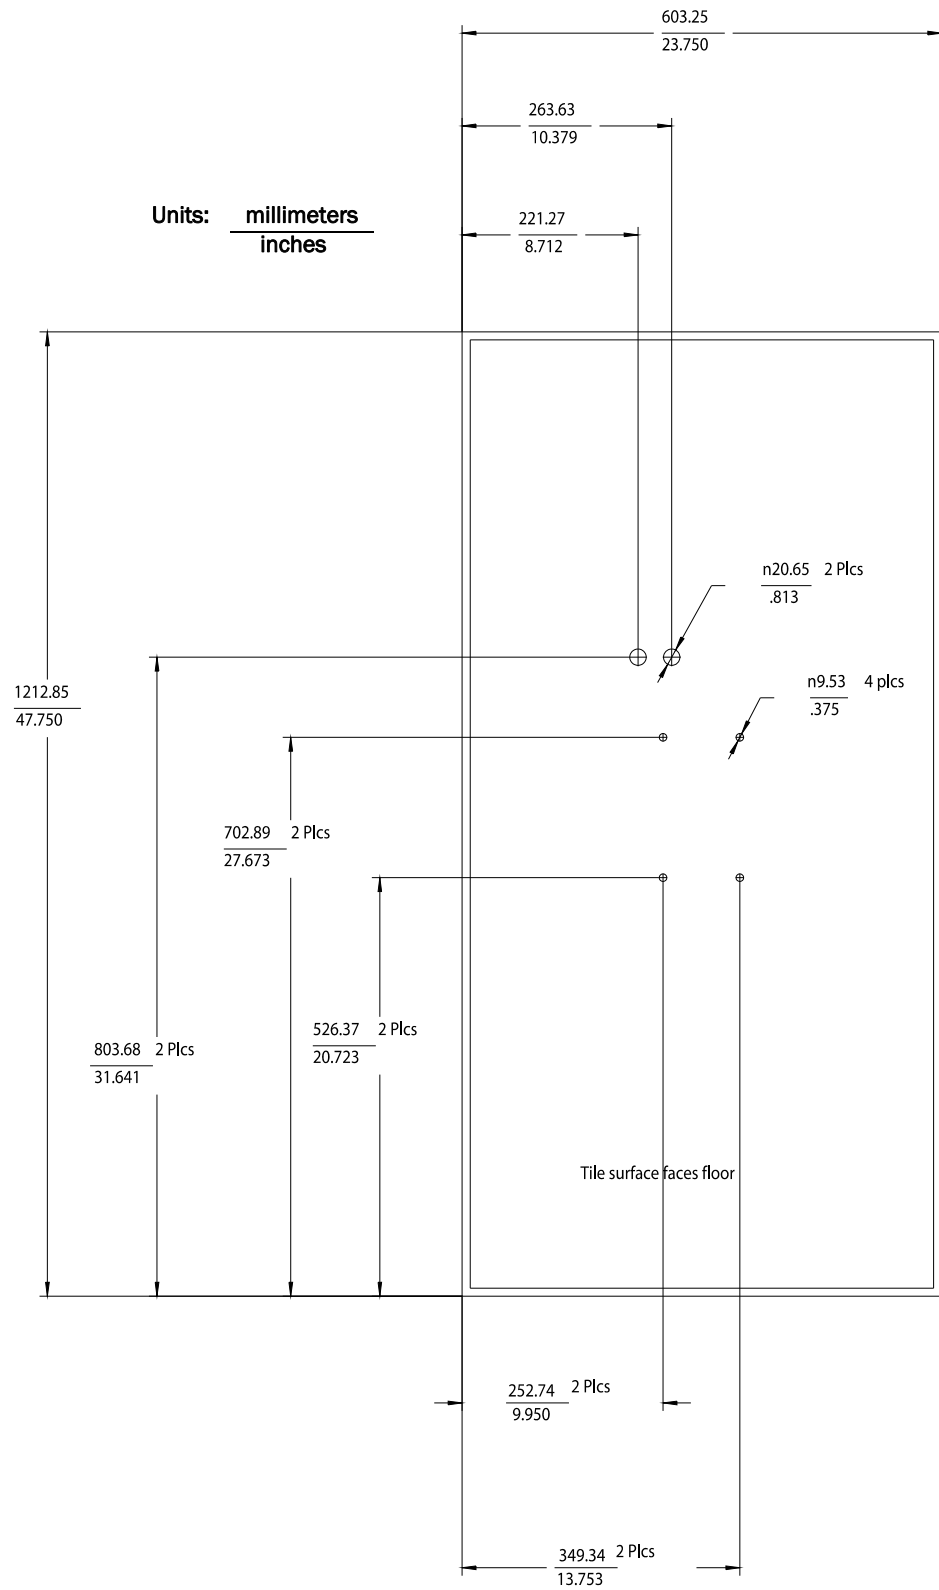

Figure 2-13: Core AP Below Ceiling Tile Hole Locations and Dimensions
3. Refer to Figure 2-13 for all dimensions and hole locations. Place the mounting rails across the tile (underside of tile). For ceiling tiles that are smaller than standard 2' x 4' size ceiling tile, the mounting rails can be cut down in length at the u-shaped cutouts.